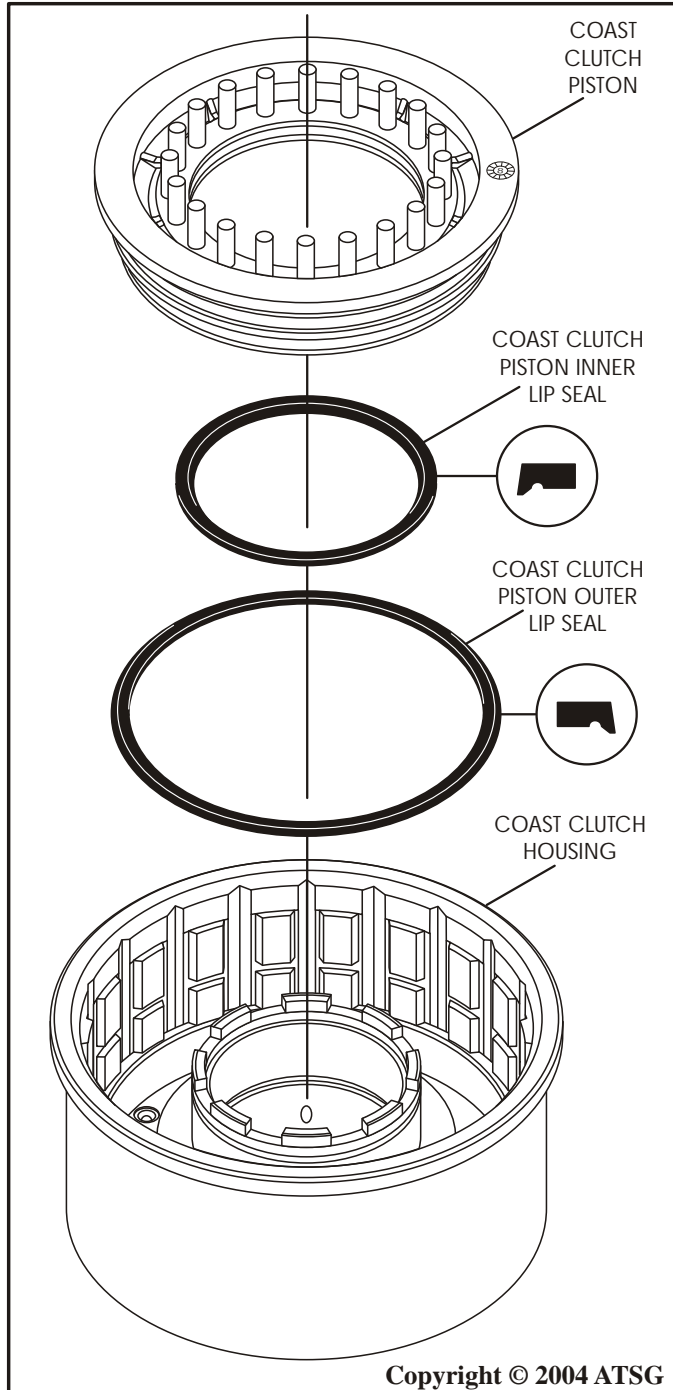

Figure 67
5. Install a new inner lip seal into the groove in the coast clutch piston, with the lip facing down, as shown in Figure 67.
6. Install a new outer lip seal into the groove in the coast clutch piston, with the lip facing down, as shown in Figure 67.